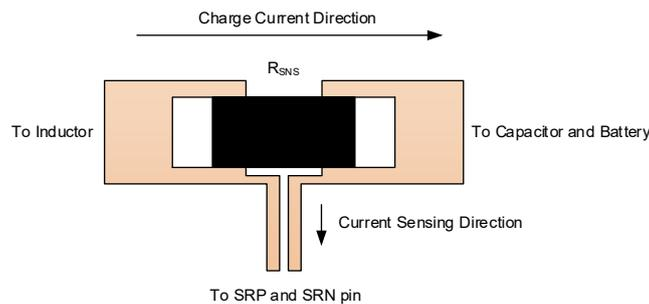

Figure 12. Sensing Resistor PCB Layout
4. Place the charging current sensing resistor right next to the inductor output terminal and route its sense leads with Kelvin connections, as shown in Figure 12, to the device on the same layer. Keep the sense traces close to each other to